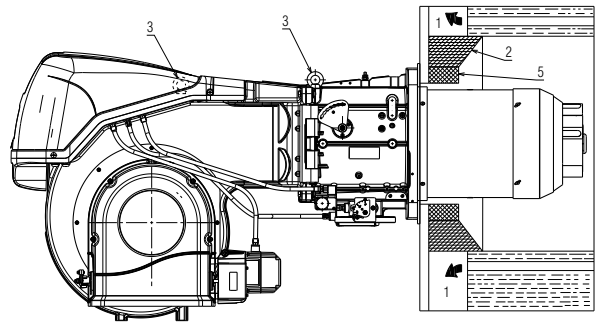

Fig. 15
For boilers with front flue passes 1) (Fig. 15) or flame inversion chamber, a protection in refractory material 5) must be inserted between the boiler fettling 2) and the flame funnel 4).
For boilers with a water-cooled frontpiece, a refractory lining 2)-5) (Fig. 15) is not necessary, unless expressly requested by the boiler manufacturer.
Prepare a suitable lifting system using rings 3)(Fig. 15).
- Fit the heat insulation supplied onto the blast tube 4)(Fig. 15).